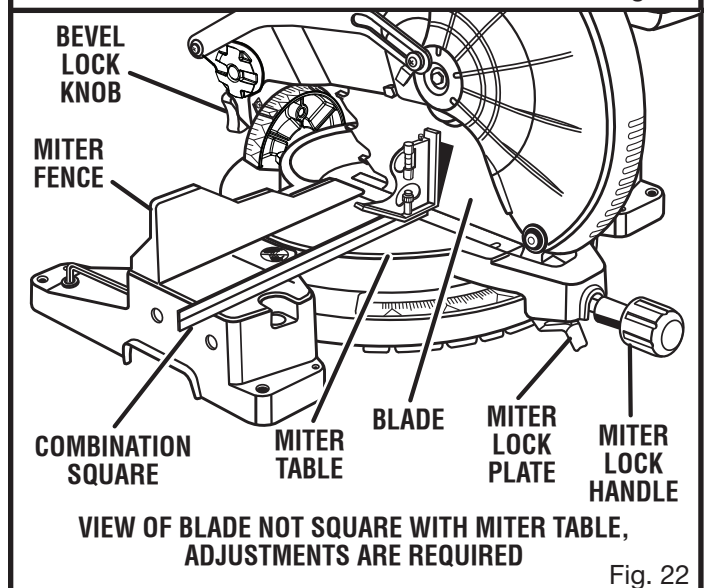

Fig. 22
- If the top or bottom of the saw blade angles away from the square as shown in figures 22 and 23, adjustments are needed.